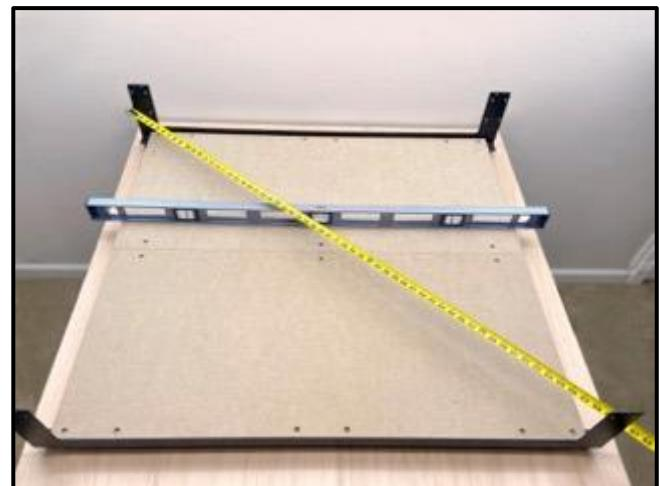

Figure 2-14
1. Adjust the leveling feet to bring the fully assembled baseframe into level. Check front-to-back, side-to-side, and diagonally. See *Figure 2-14*.
Optionally, if you wish to check for square now, you can do so by measuring diagonally across the baseframe from the outside edges of the endplates. Check both sides. The machine is square when the two measurements are equal. See *Figure 2-14*.